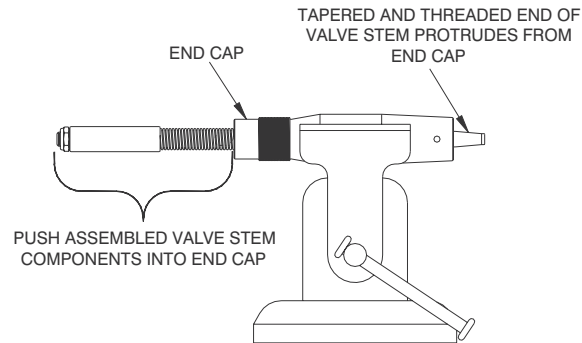

Figure 11-23. Threaded End of Valve Stem
Cap (16), as shown in Figure 11-23.
5. Thread the Hose Socket (17) with the Whip Hose (18) onto the Valve Stem (11). Hand tighten the Hose Socket to